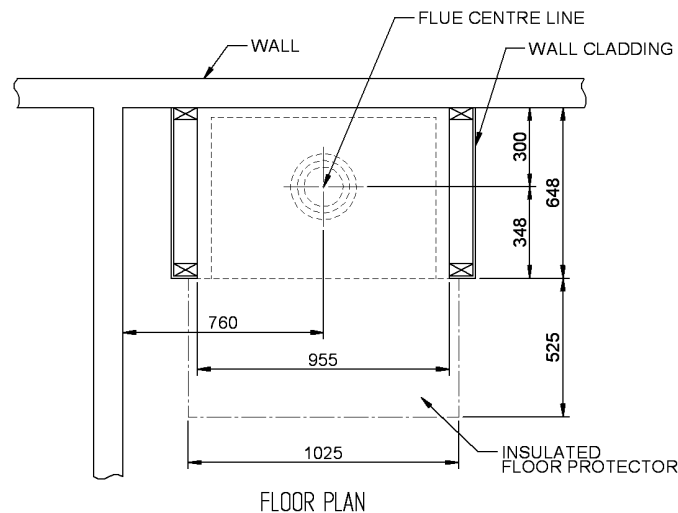

Fig. 2
1. Inspect the house construction at the proposed installation position to verify that the flue casing (250mm diameter, plus 25mm clearance all around) can pass right up through the ceiling space without requiring the removal of essential roof or ceiling support beams. The flue centerline will be 300mm from the rear wall and it must be at least 760mm distant from any side wall. (See Fig. 2).
You can create a 'different look' installation as per Fig. 7 and variations of it. The minimum dimensions for the plan view (floor plan) are the same as for the 'wall to ceiling enclosure' (See Fig 2). The inside height of the enclosure must be at least 1245mm from the bottom of the shielding box rails to the underside of the top panel of the box. The chimney chase must be at least 440mm square over the wooden frame which is made from 45x90 dressed timber (See Fig.7), or it could also be made from tube with an inside diameter of 350mm. The chimney chase frame can be made from timber and the cladding can be made from GIB-board. The whole front cladding of the enclosure must be made from heat-resistant material like Hardies TILE & SLATE UNDERLAY, HARDYFLEX or ETER-PAN. The side cladding and the top panel can be made of any cladding material (it does not have to be heat-resistant material). Of course the supplied steel angle support which supports the front cladding immediately above the shielding box must be used as above. All other constraints are as above. The top panel of the box enclosure must have an opening of at least diameter 350mm where the flue/flue casings exit the box.